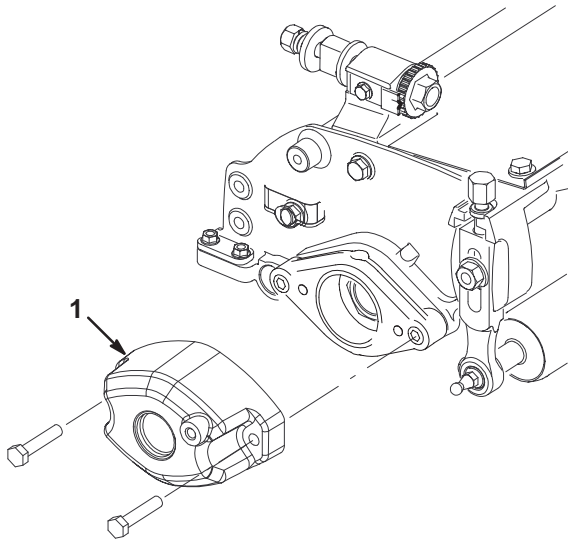

Figure 2
- Remove the 2 capscrews securing the counter weight to the side plate (Fig. 2). Remove the weight.